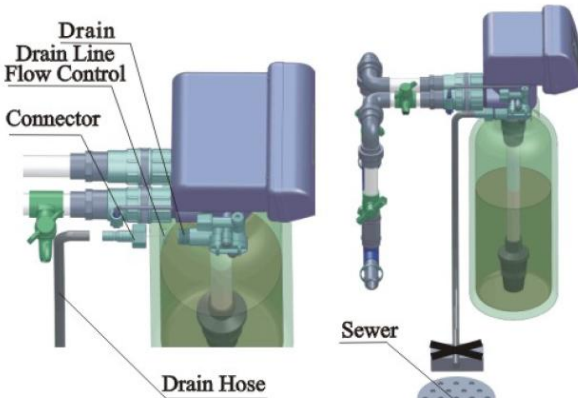

Figure 1-4
- If the valve belongs to time clock type, there are no step ② and ③
⑤ Install drain pipeline
a.As the Figure 1-4 shows, slide the drain hose connector into drain outlet.
d.Locate the drain hose well as the Figure1-4 show.
- Be sure not to connect drain with sewer, and leave a certain space between them, avoid wastewater be absorbed to the water treatment equipment, such as showed in the Figure1-4.